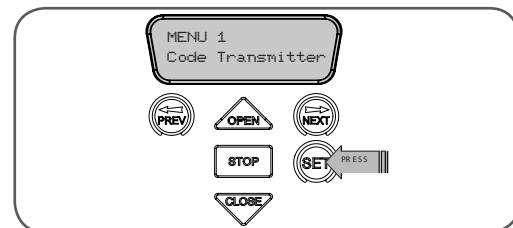

fig 30
1. Press NEXT to navigate to Menu 1 "Code Transmitter" (**Fig. 30**).